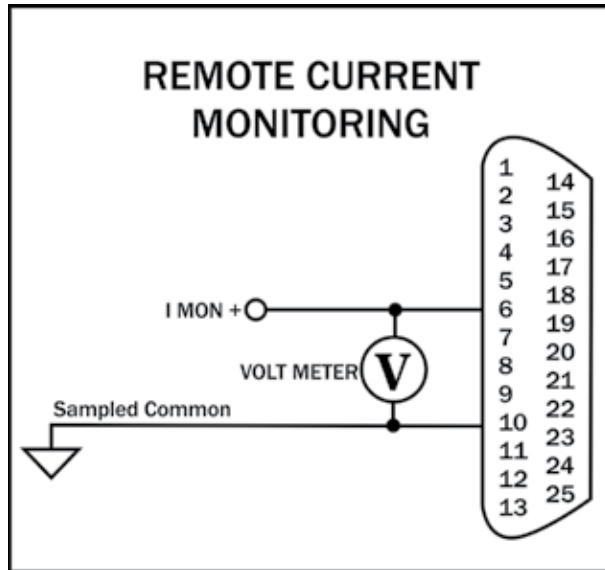

Figure 7.10 – Remote Current Monitoring
**Method:** Connect a voltage meter to monitor the output current being produced by the amplifier. Connect across PIN 6 (I MON+) and PIN 10 (Sampled Common). See **Figure 7.10**.